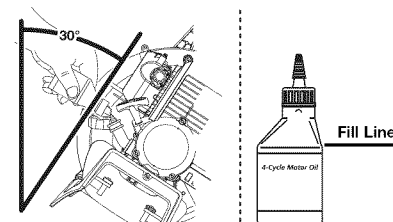

Fig. 22
4. Tilt the unit 30° to the side (Fig. 22).
NOTE: Use the bottle and spout saved from initial use to measure the correct amount of oil. The top of the label on the bottle measures approximately 3.04 ounces (90 ml) (Fig. 22). Check the level. See *Checking the Oil Level*. If the level is low, add a small amount of oil and recheck. Do not overfill.